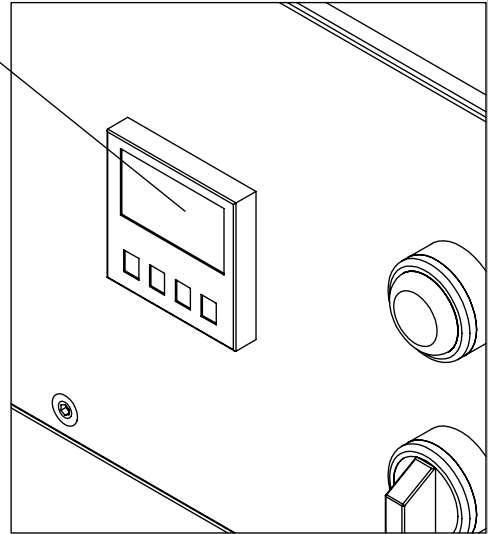

Figure 4
While keeping the right hand plate control push-button depressed,press and release the left hand plate control push button; each depression increases the time by 1 second. (emergency stop button has to be open) For zeroizing the time,while emergency stop button is depressed which side's start button is depressed that side will be zeroized.(Figure 4)
- Control the adjusted temperature.(Figure 4)